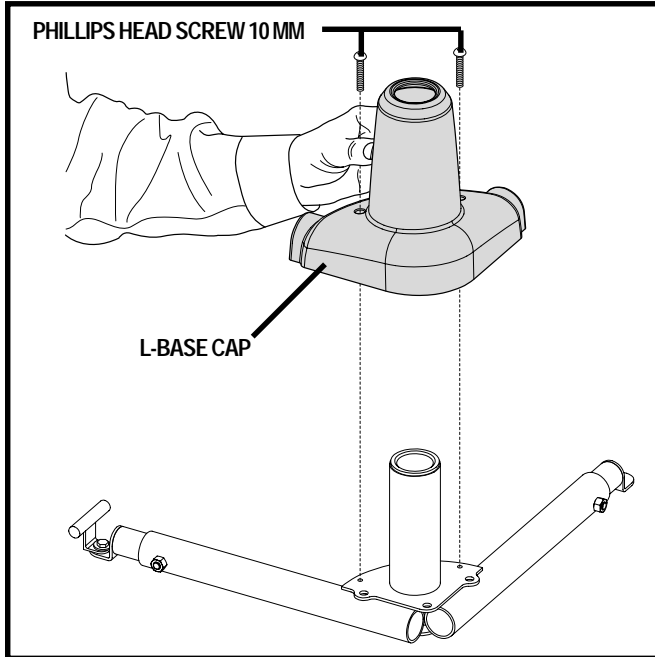

Figure 11. L-Base Cap Installation
7. Place the L-base cap over the L-base and secure it with the supplied screws. See figure 11. Replace the base shroud for power rotating base models.